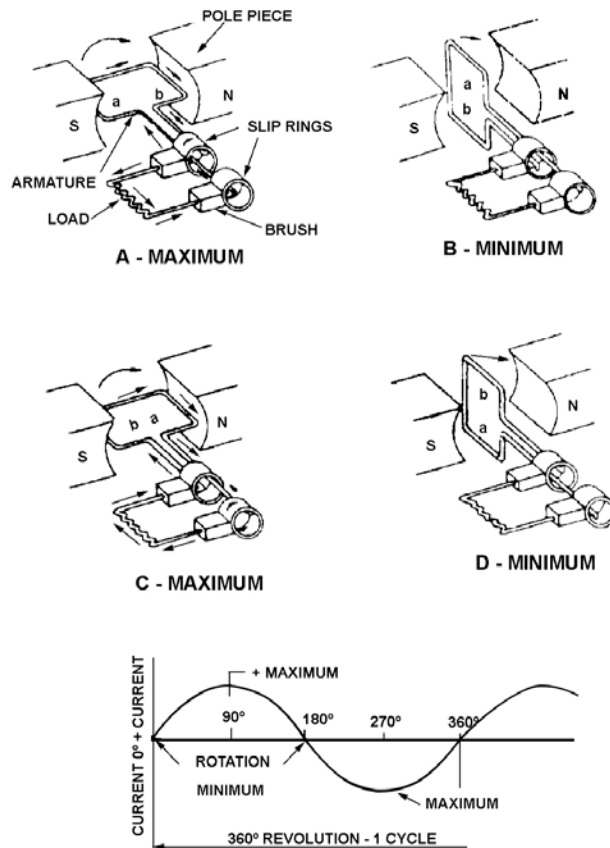

Figure 1-7. Simple AC generator.
Figure 1-7 shows a very basic alternating current (AC) generator, with a one-wire conductor.